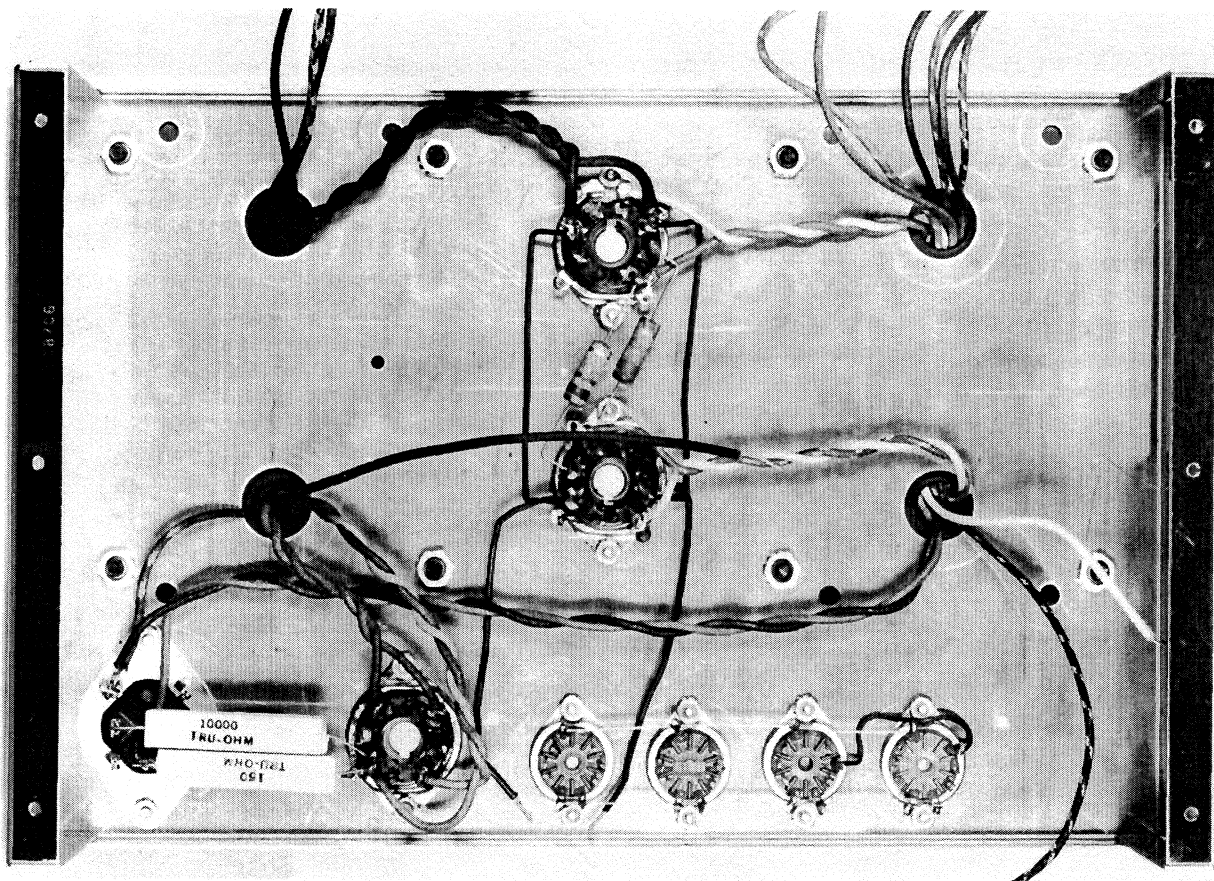

FIG. 9. UNDER SIDE OF THE CHASSIS AS IT APPEARS AT THE COMPLETION OF STAGE 4. COMPARE THIS PHOTO WITH FIG. 8 ON THE SHEET OF DIAGRAMS
- Note: As you proceed with this stage, check the locations of the parts with both the diagram in Fig. 8 and the corresponding photograph in Fig. 9.